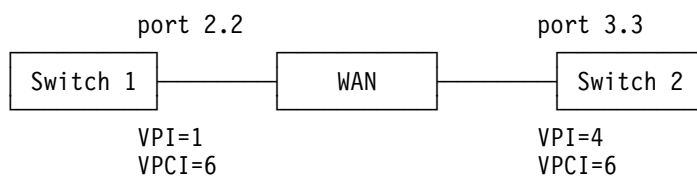

Figure 5. VP Tunneling Over a WAN
2. VP tunneling over a WAN. Very often when a link crosses a WAN the service provider will not allow the use of VPI=0 because it is used for internal WAN traffic. Consequently, the private organization must use another VPI than the default. In addition, at both ends of the WAN, the VPI could be different, as shown in Figure 5 on page 52.